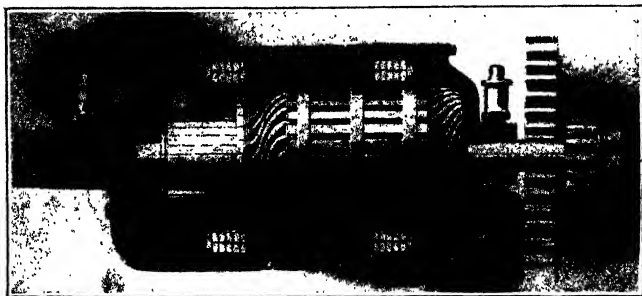

Fig. 155. Section of Bosch-Rushmore Starting Motor
Whether the windings be placed on two poles or on four poles is something that each designer decides according to his own preference in the matter. The Bosch-Rushmore starting motor, Fig. 155,
*Bosch-Rushmore Type.* Another form of automatic engagement, which is electrically operated in this instance, is that of the Bosch-Rushmore starter. By referring back to Fig. 155, which shows a section of this starting motor, it will be noted that there is a heavy spring on the left-hand end of the armature shaft and that